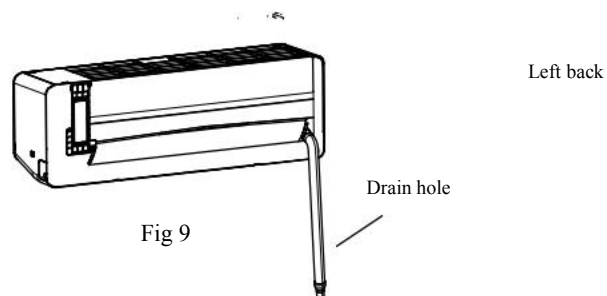

Fig 9
- ### 2. Connecting left back tube (similar to left lower tube). (optional, Refer to Fig9)
Right chart is available for the position of drain hose, refer to Fig 9.